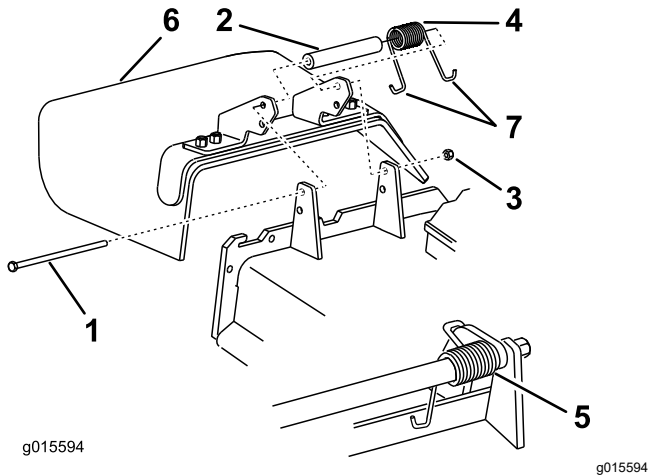

Figure 100
1. Remove the locknut, bolt, spring, and spacer holding the deflector to the pivot brackets (Figure 100).
2. Remove the damaged or worn grass deflector (Figure 100).
Note: Make sure that 1 J-hook end of the spring is installed behind the deck edge before installing the bolt as shown in Figure 100.
6. Place 1 J-hook end of the spring around the grass deflector (Figure 100).